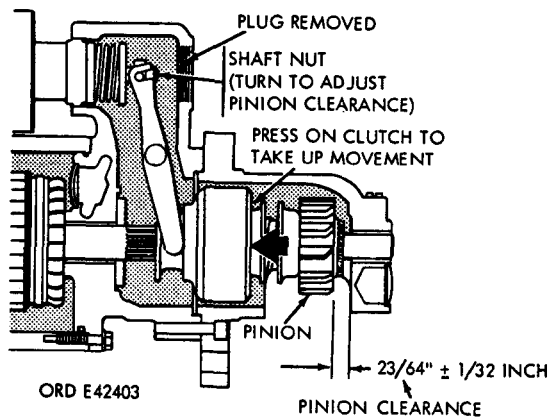

FIGURE 38. ADJUSTING DRIVE CLUTCH PINION CLEARANCE.
- (3) Remove solenoid lead assembly connecting battery switch terminal stud and battery solenoid terminal.
- (4) Connect a 24-volt battery supply to battery solenoid terminal and motor solenoid terminal.
- (5) Momentarily hold a jumper lead from the motor switch terminal stud to the motor solenoid terminal. The pinion will now shift into cranking position and remain so until the battery is disconnected.
- (6) Push pinion back toward armature to take up slack movement.
- (7) Remove inspection plug and gasket (B and A, figure 7, step 1) and measure the distance between pinion and drive housing and adjust clearance to  $23/64 \pm 1/32$ -inch by turning shaft nut (fig. 38).